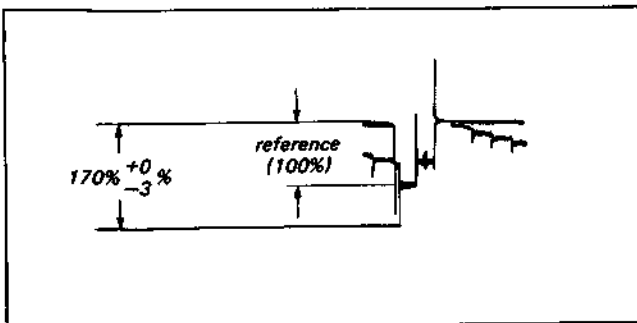

Fig. 4-21. Dark clip adjustment
- (3) Adjust RV7 so that the signal tip (dark peak) is 170%  $\pm 3\%$ . (See Fig. 4-21.)